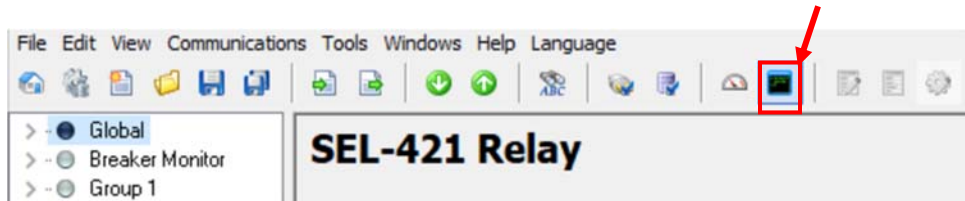

Figure 62: Open Terminal Window
44. Open the terminal window in the QuickSet software as shown in Figure 62 and do the following: